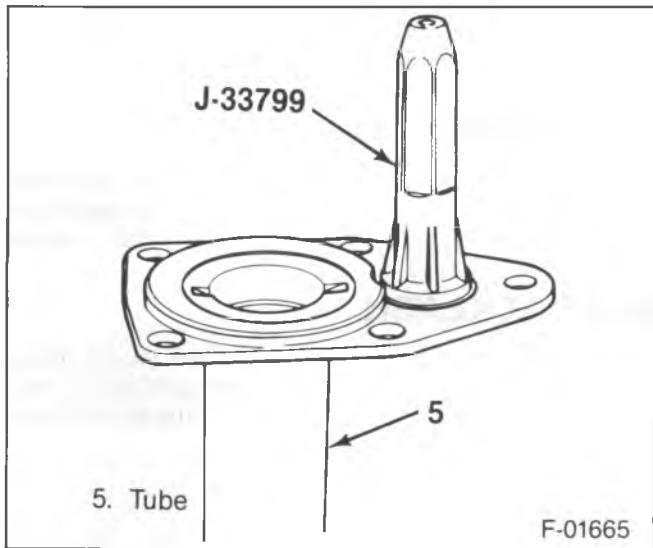

Figure 32—Installing the Shift Housing Seal
9. Seal (15). Use J 33799 (figure 32).